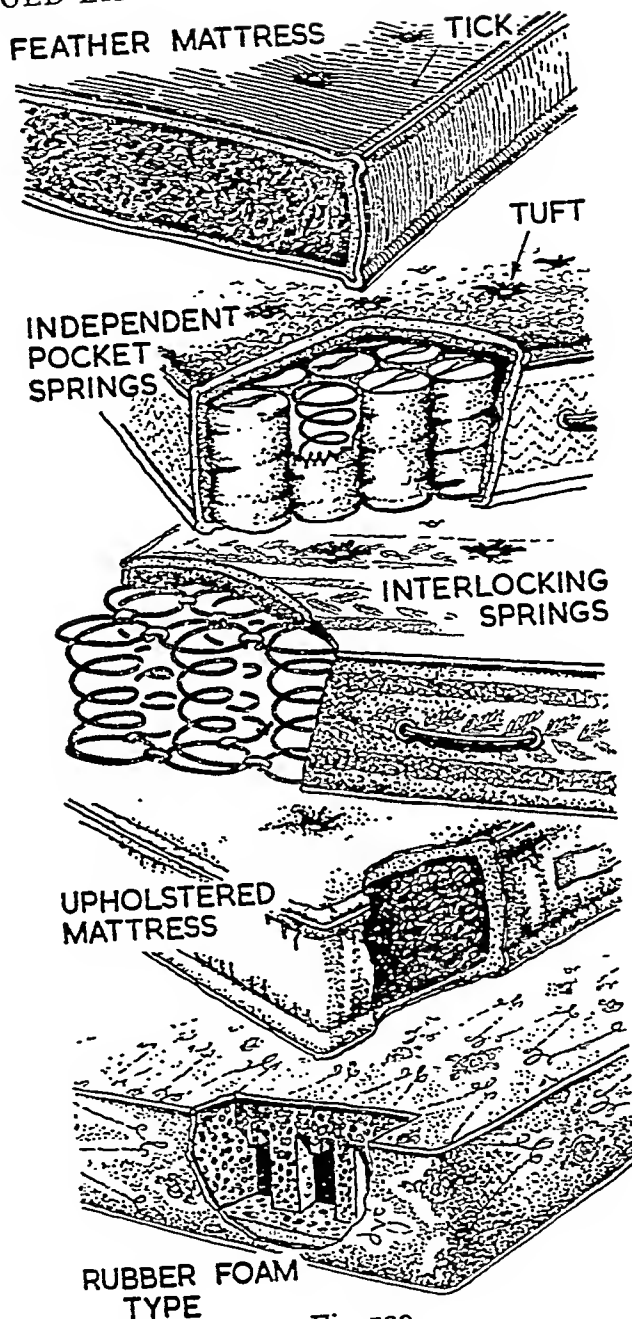

Fig. 190.
(1) *Feather Mattresses:* Although a little old-fashioned this type of mattress is preferred by many people who enjoy sleeping in a warm soft bed. A cross-section of a feather mattress is illustrated in *Fig. 190*.
(2) *Interior Sprung Mattresses:* This type of mattress is preferred by people who like a soft bed, and for this sort of person an interior sprung mattress with independent pocketed springs will be found best (see *Fig. 190*). Those who like interior sprung mattresses, but prefer them harder, should choose one with an interlocking spring as shown in cross-section in *Fig. 190*.
(3) *Upholstered Mattresses:* These mattresses, which are illustrated in *Fig. 190*, are filled with coiled hair or wool and are usually on the hard side.
(4) *Rubber Mattresses:* A rubber mattress of the latex foam type with girder-like sections is illustrated in cross-section in *Fig. 190*. They are very soft and cool. These mattresses have hard-wearing qualities and are regarded by most people as being extremely comfortable. Use of this type of mattress on a bed requires a thick under blanket.